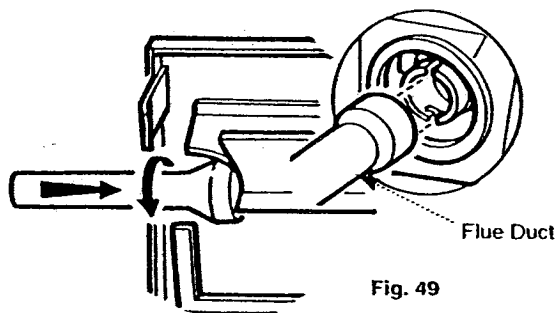

Fig. 49
3. Locate the swaged end of the flue duct over the bayonet fitting on the turret, taking care not to damage the 'O' ring. Lock the flue in place by pressing in and turning clockwise (Fig. 49).